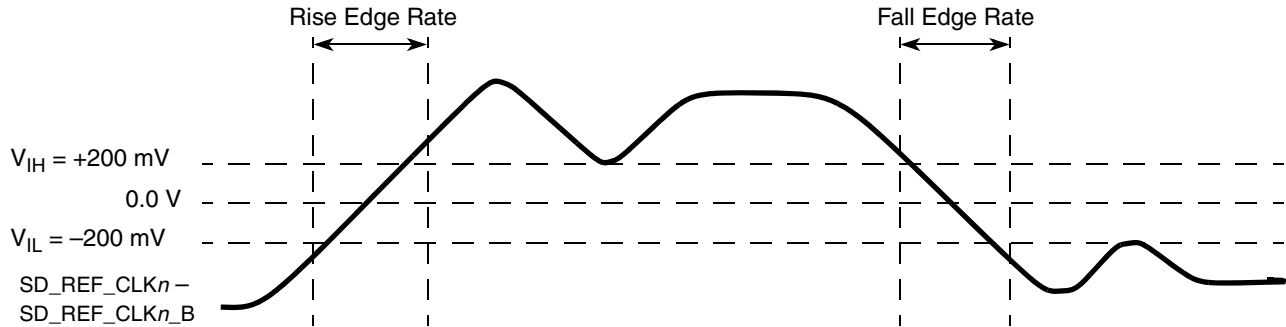

Figure 42. Differential Measurement Points for Rise and Fall Time
- Measured from –200 mV to +200 mV on the differential waveform (derived from SD_REF_CLKn minus SD_REF_CLKn_B). The signal must be monotonic through the measurement region for rise and fall time. The 400 mV measurement window is centered on the differential zero crossing. See Figure 42.